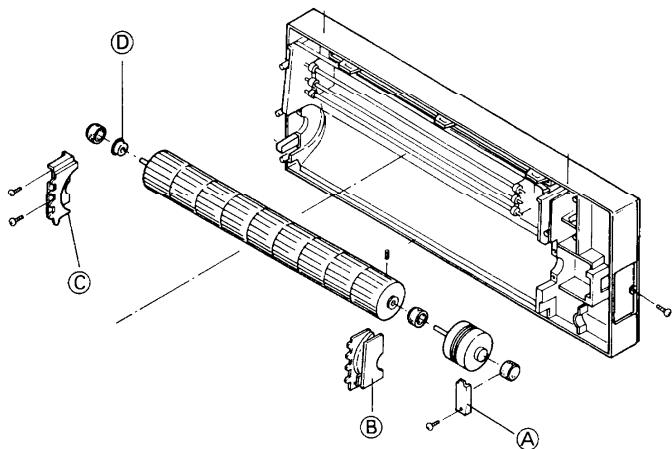

Fig. 4
- 1) As shown in Fig. 4 loosen the screws of the plastic mounting plates **A**, **B** and **C** which secure the fan, then remove the fan and fan motor.